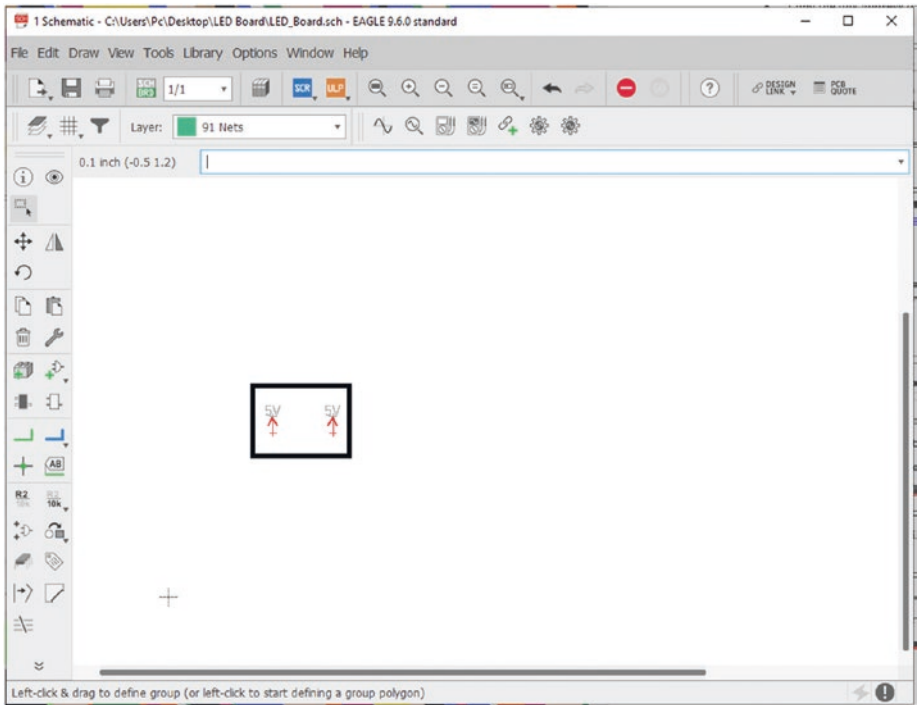

Figure 5-20. Add 5V symbols to the schematic window
7. Add two of the “5V” symbol onto the schematic window by left-clicking the screen. See Figure 5-20.